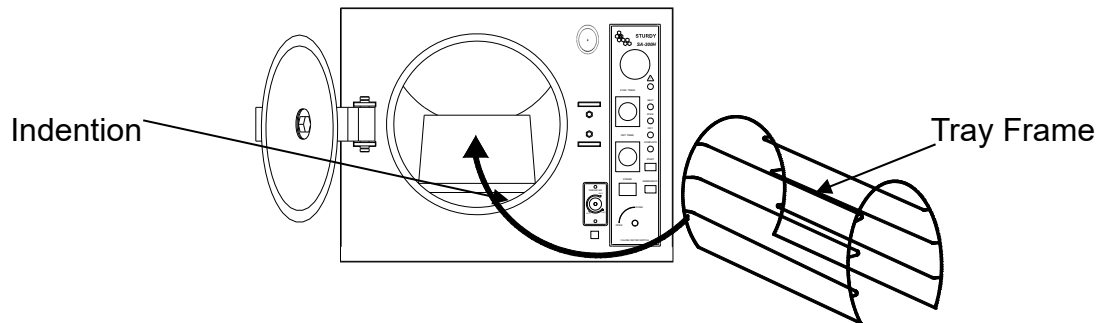

Figure 7 – Tray Frame
- D. Install the tray frame as Figure 7 – Tray Frame. (optional accessory)
⚠ Caution: The frame should be installed as Figure 7 – Tray Frame below.